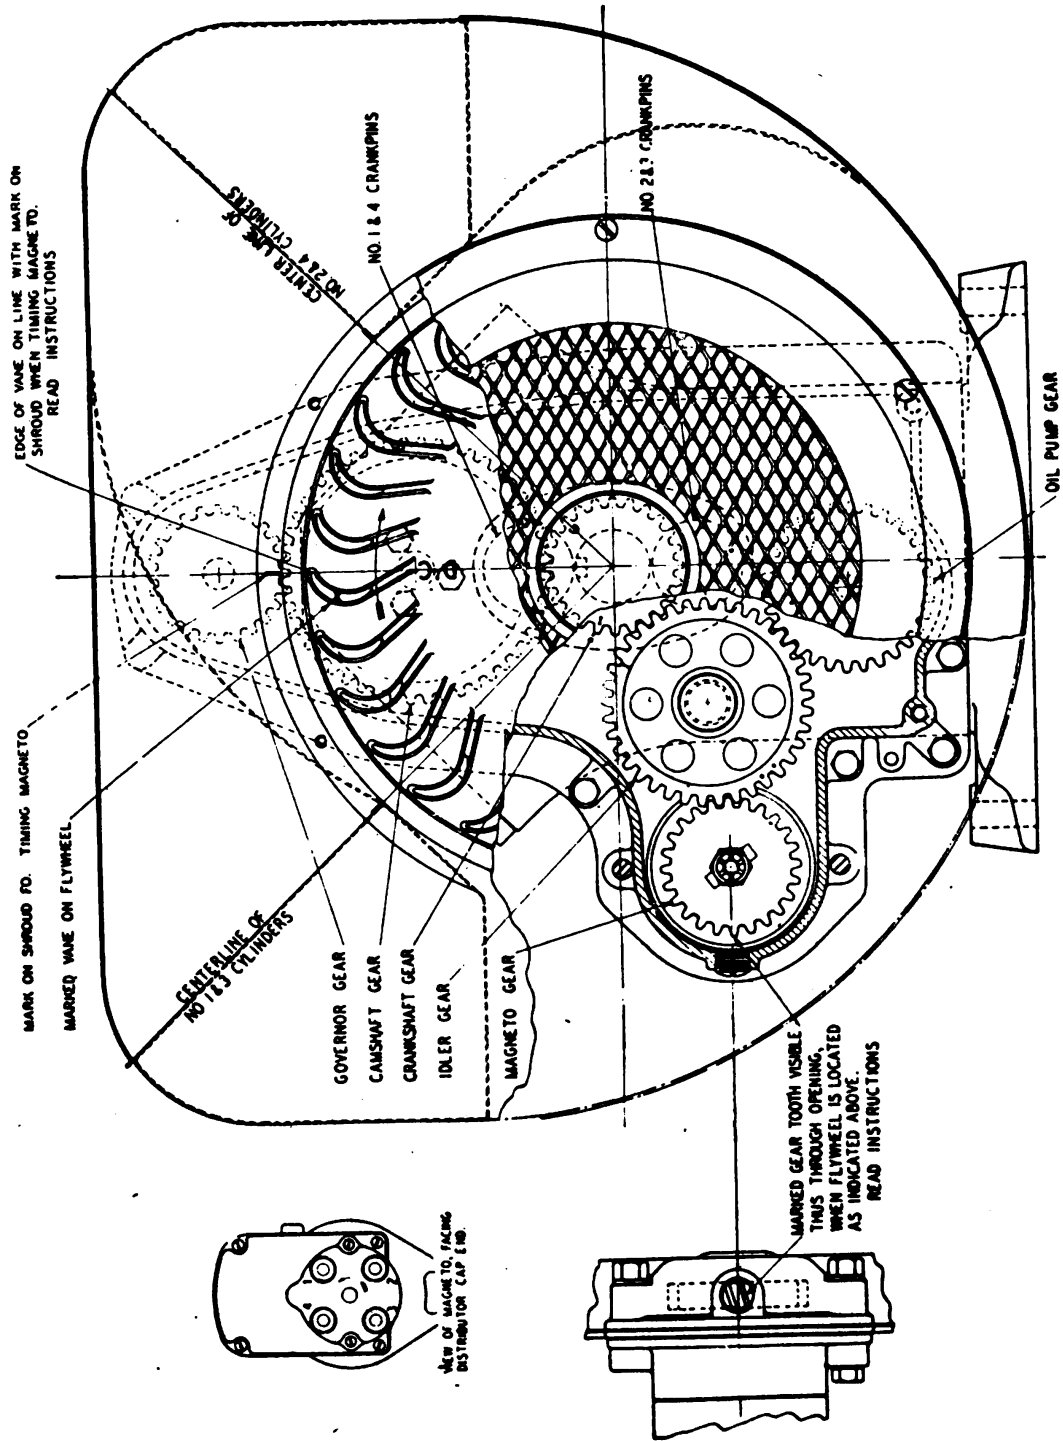

Figure 22.—Timing Diagram
a. First, remove the screen over the flywheel air intake opening by taking out the six screws holding the screen in place. This will expose the mark on shroud for timing magneto. See timing diagram, figure 22.
c. The flywheel is marked with the letters "DC" near one of the air circulating vanes. This vane is further identified by a mark cast on the end. (See figure 22). When the air blows out of No. 1 spark plug hole, continue turning the starting crank until the edge of the marked vane on the flywheel is on line with the top center. The key-way at take-off end of the crankshaft is also on top.
d. The magneto should then be fitted to the engine so that the marked tooth on the magneto gear is visible through the opening in timing gear housing as shown on timing diagram (figure 22). The distributor cap on the magneto is numbered from 1 to 4. The leads from the magneto should be connected to spark plugs of like numbers, according to the engine fire number.
marks on the gears line up with the marks as shown on timing diagram, (figure 22).